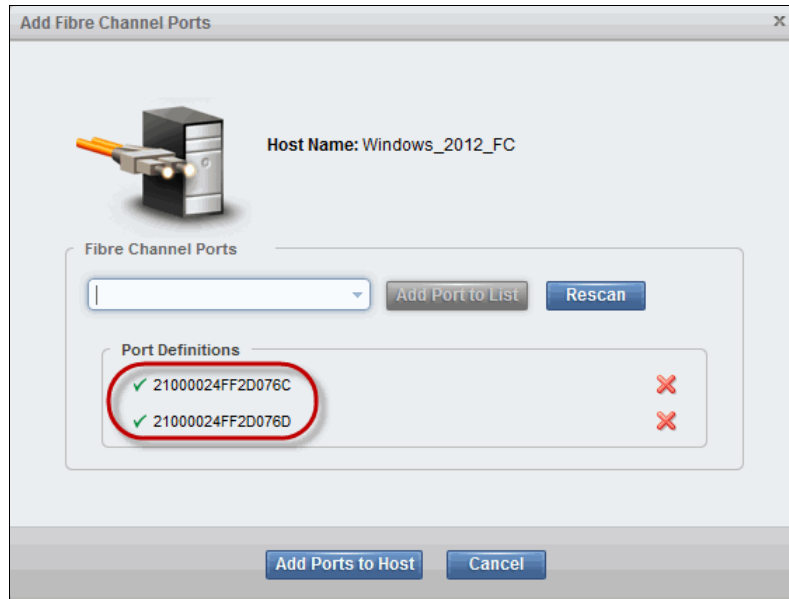

Figure 8-30 Adding online host ports
3. Select the required WWPN and click **Add Port to List**. This adds the port to the Port Definitions list, as shown in Figure 8-30. Repeat this step to add more ports to the host.